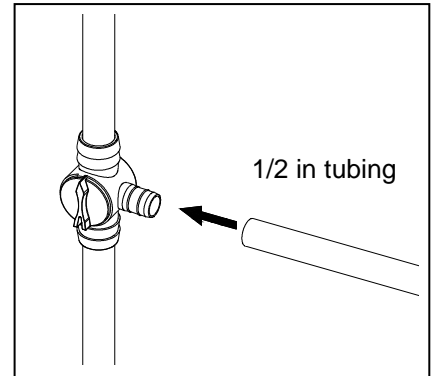

Fig. 3
3. For 1/2 in. tubing, connect the tubing onto the second output of the diverter valve. Connect the other end of the tubing to a spitter or other water feature. Fig. 3